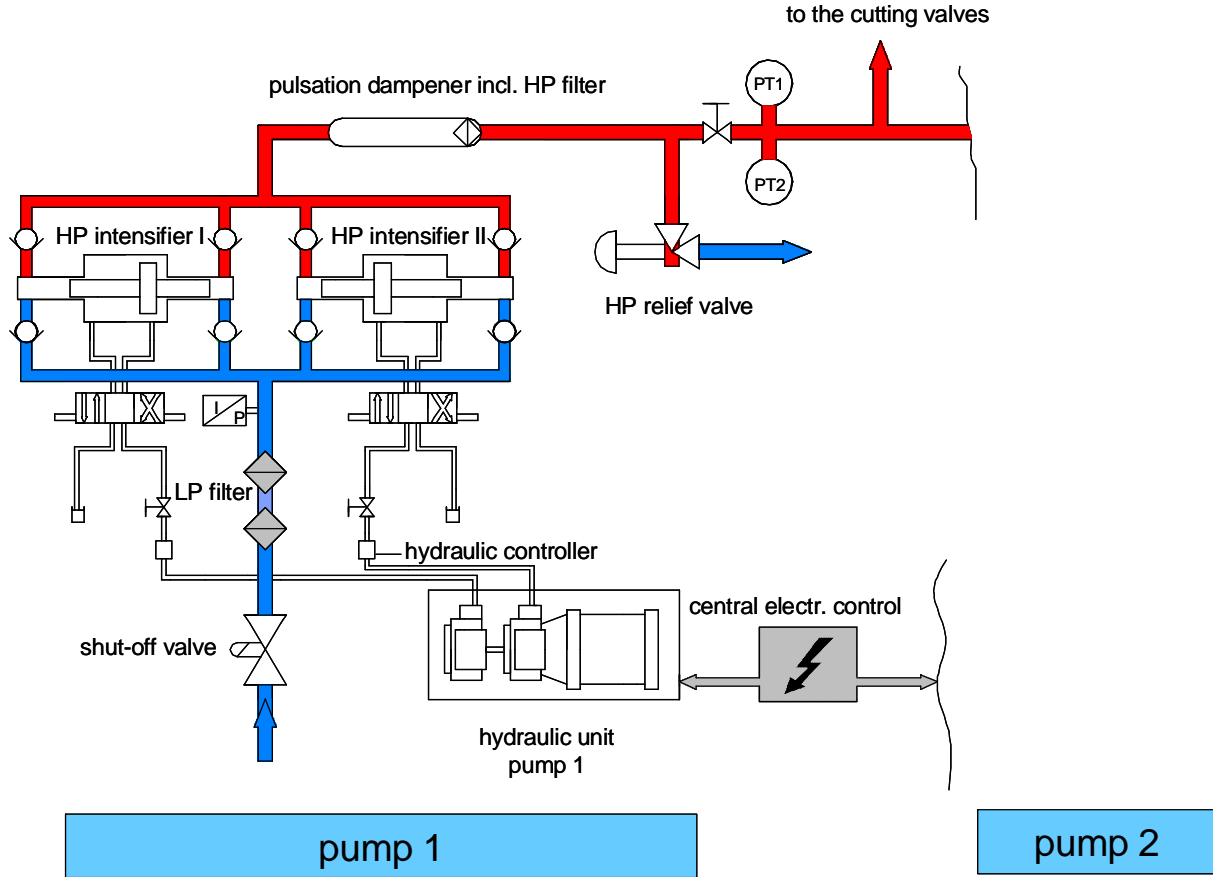

figure 7: Structure of the 180 kW Pumping system
The HP pumps are connected via a manifold (HP piping) [fig. 7]. At the junction of the HP manifolds two (2) high-pressure transducers PT1 and PT2 are installed for redundancy and safety reason. A manual HP Stop valve is installed in the HP discharge line of each HP Pump for maintenance reason.
The working principle of state-of-the-art water-jet cutting pumps is that of a reciprocating hydraulic piston, which compresses water on one side of the piston while suctioning on the other side [fig. 7].
Due to manual stop valves with electric position switches in the line from the hydraulic pump to the hydraulic cylinders, it is easy and safe to disconnect intensifiers for maintenance work (fig. 7).